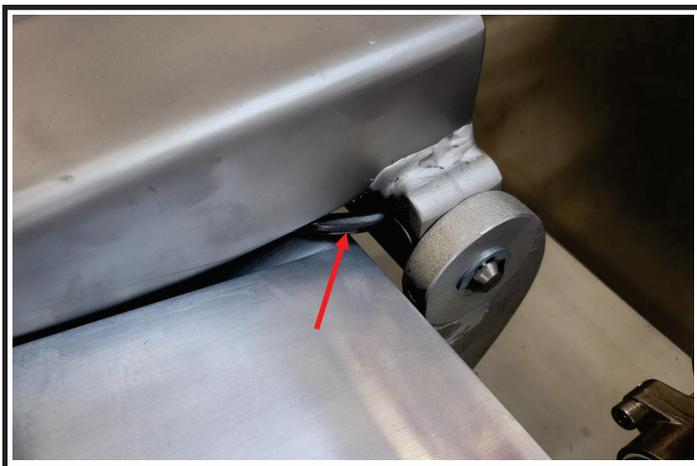

Figure 2: Black Oxide Spring With Lid Closed
- **This coverage only applies to pressure fryers with a spring that is black in color (see Figures 2 & 3), that allows the lid to raise unassisted from the down unlatched position to the fully open position.**